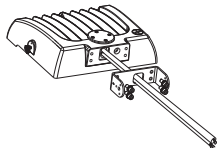

figure 4.1
- Step 1: Take the lamp out of package; (figure 4.1)